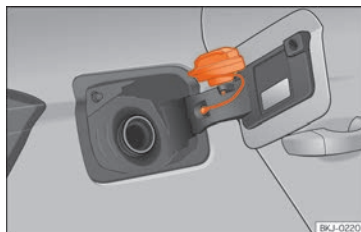

Fig. 58 Fuel tank flap with tank cap attached.
- Place it in the space on the hinge of the open flap » » » **Fig. 58**.